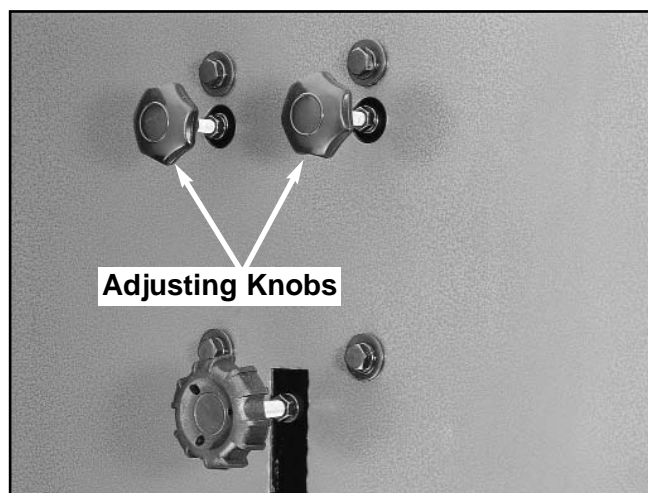

Figure 5. Wheel alignment adjusting knobs.
4. The knobs to adjust the top wheel are located at the back of the bandsaw. Refer to **Figure 5**. Loosen the check nuts and adjust as necessary.